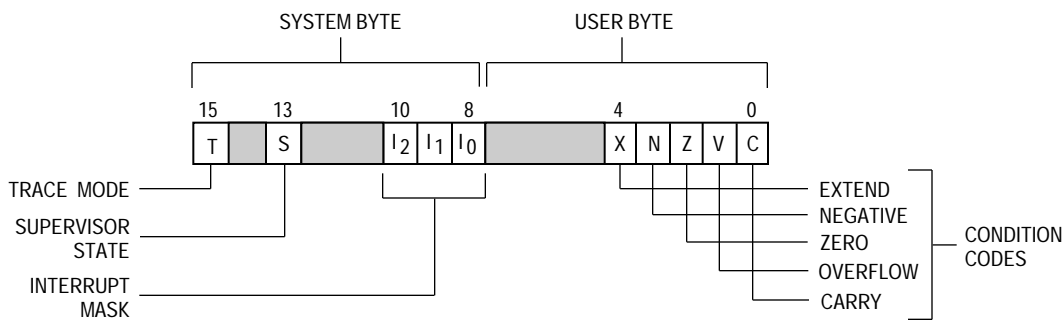

Figure 2-4. Status Register
The status register (SR), contains the interrupt mask (eight levels available) and the following condition codes: overflow (V), zero (Z), negative (N), carry (C), and extend (X). Additional status bits indicate that the processor is in the trace (T) mode and/or in the supervisor (S) state (see Figure 2-4). Bits 5, 6, 7, 11, 12, and 14 are undefined and reserved for future expansion